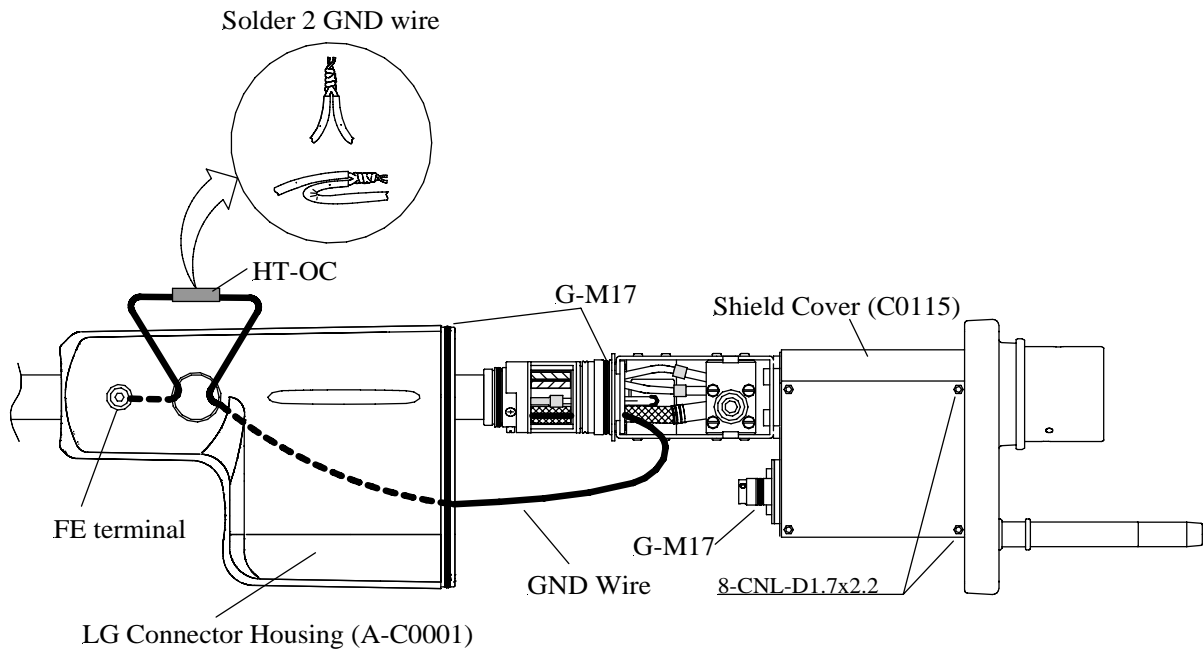

Fig.5-4-1
- 5) Apply Grease (G-M17/RM3115) on O-Rings as shown Fig.5-4-1.